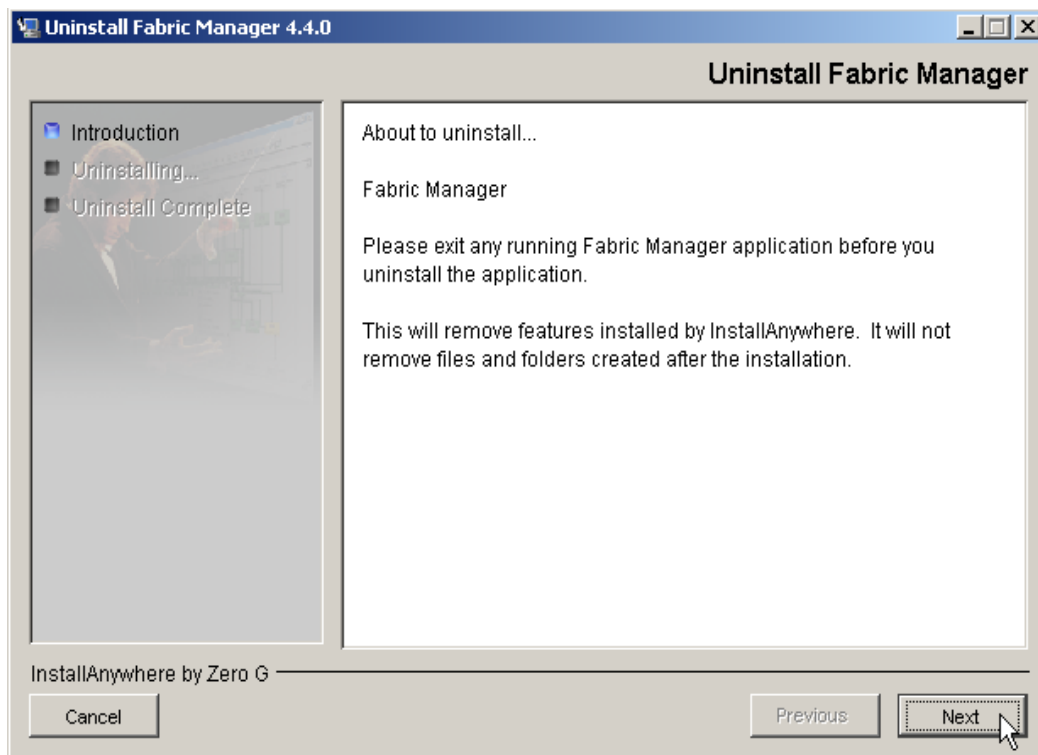

Figure 57 Uninstall Fabric Manager wizard
The Uninstall Fabric Manager wizard appears (see Figure 57).
2. From the `Fabric_Manager/ UninstallerData` directory, run `Uninstall_FabricManager` (see Figure 57).